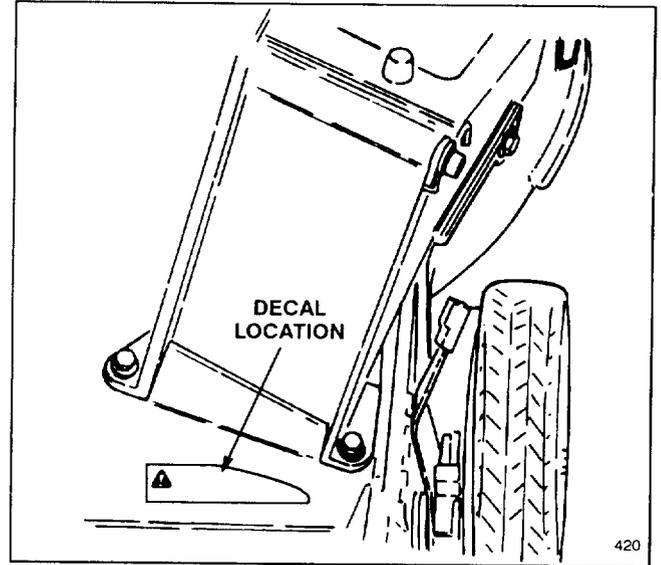

Figure 5
2. Install decal in area shown in Figure 5. Do not place bagging decal over model/serial number decal.